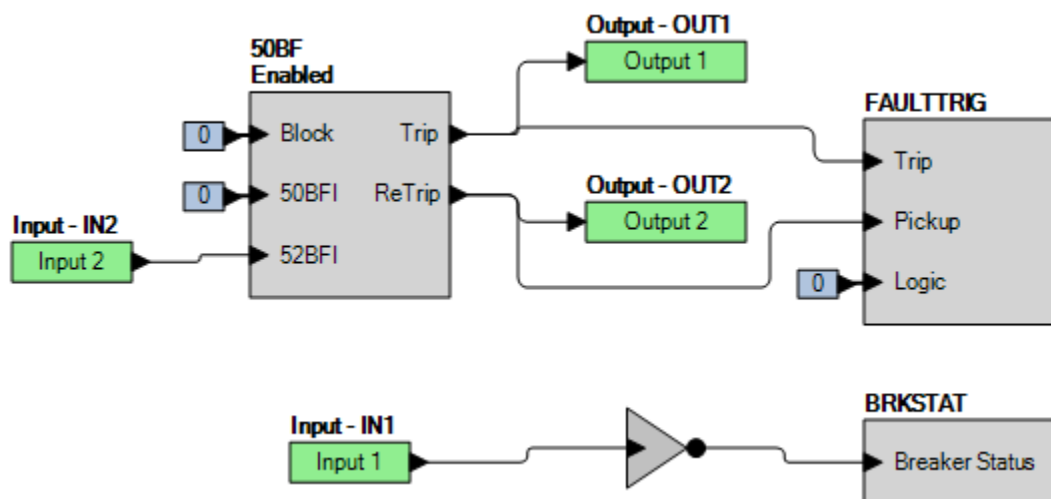

Figure 73-1. BESTlogicPlus Settings (BFI52 Contact Initiate)
Step 2: Use BESTCOMSPPlus to configure the BESTlogicPlus programmable logic shown in Figure 73-1.